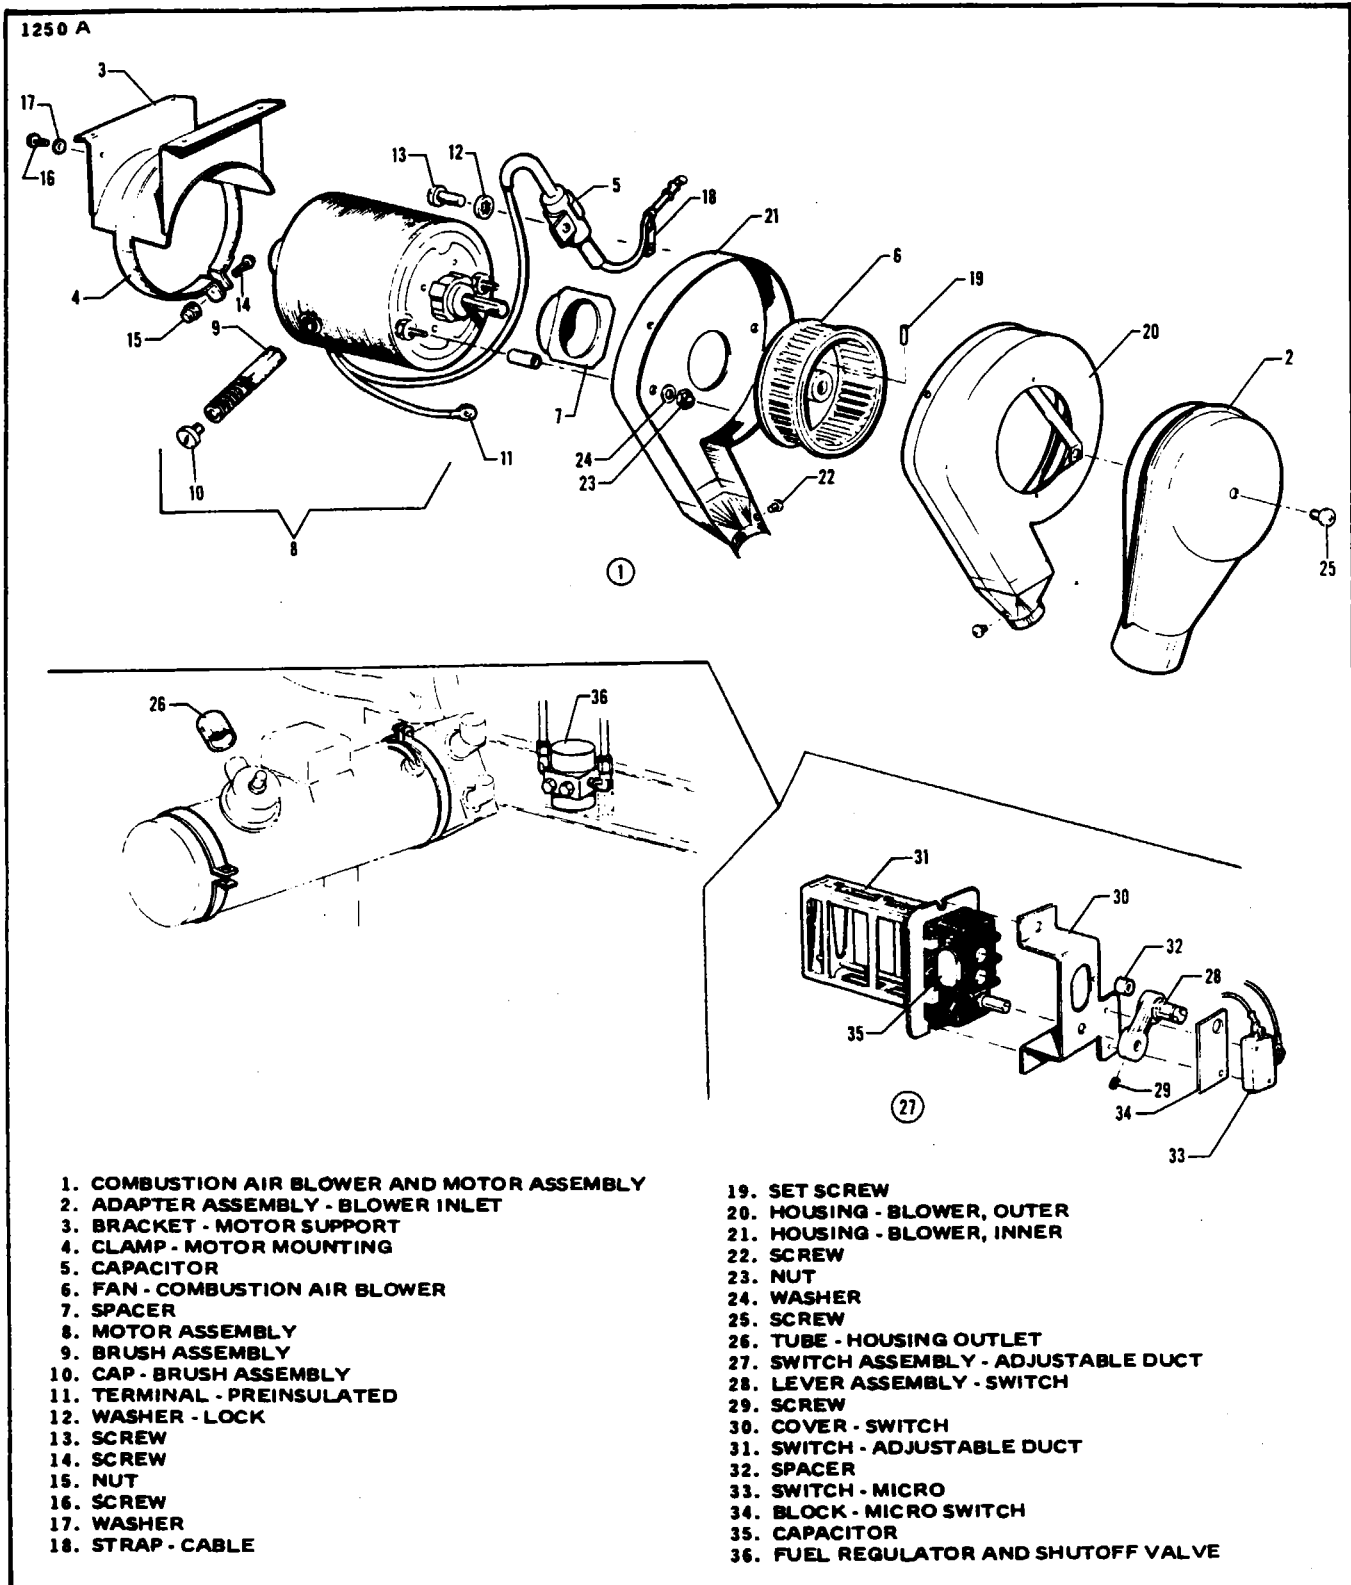

Figure 13-32. Combustion Air Blower and Motor Assembly 89D26-1
1. Place the spacer (12) over the end of the motor shaft and attach the motor assembly (13) to the back plate (11) with the two self-locking nuts (23), flat washers (25) and lock washers (24).
2. Slide the blower wheel (10) on the motor shaft and tighten the set screw lightly against the flat portion of the motor shaft.
3. Place the blower housing (8) in position on the back plate (11) and install screws (18) and lock washers (17).
4. Attach the capacitor (7) at the point shown with the screw (18) and lock washer (17). The motor ground lead terminal (16) can be grounded to the motor support bracket (3).
5. Attach the inlet flange (6) and blower inlet adapter (2) to blower housing (8) with three screws (18) and lock washers (17).
6. Loosen the allen set screw in the blower wheel (10) and shift the wheel on the motor shaft until it is near the inlet in the blower housing. Tighten the set screw securely. The blower wheel should just clear the inlet flange when rotated at full RPM. Spin the blower wheel by hand for clearance check; then apply proper voltage to run motor and recheck for proper clearance.
7. Slide the blower outlet adapter (5) on the blower housing outlet (8) and install the two screws (18) and lock washers (17).
b. Refer to the following steps and Figure 13-32 for reassembly of 89D26-1 combustion air blower and motor:
1. Place the spacer (7) over the end of the motor shaft and attach the motor assembly (8) to the inner housing half (21) with the two self-locking nuts (23) and washers (24).
2. Slide the blower fan (6) on the motor shaft and tighten the set screw lightly against the flat portion of the motor shaft.
3. Place the outer half of blower housing (20) in position on the inner housing half (21) and install attaching screws.
4. Attach the capacitor (5) at the point shown with the screw (13). The motor ground lead terminal (11) can be grounded to the motor support bracket (3).
5. Attach the blower inlet adapter (2) to blower housing (20) with attaching screw (25).
6. Loosen the allen set screw (19) in the blower fan (6) and shift the fan on the motor shaft until it is near the inlet in the blower housing. Tighten the set screw securely. The blower fan should just clear the inlet flange when rotated at full RPM. Spin the blower fan by hand for clearance check; then apply proper voltage to run motor and recheck for proper clearance.